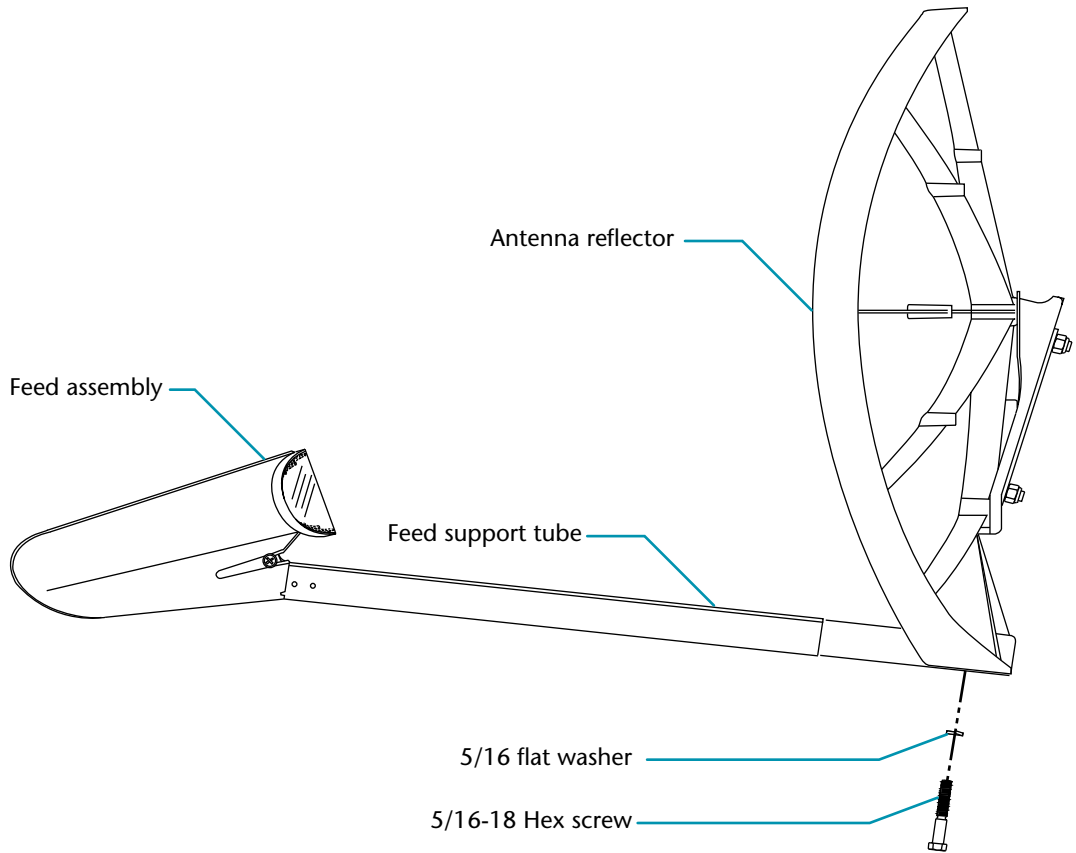

Figure 4-50. Installing feed assembly and feed support tube onto antenna reflector
1. Install the feed leg into the feed support socket on the antenna reflector (see figure 4-50).
2. Secure the feed leg with a 5/16 flat washer and 5/16-18 hex screw as shown in figure 4-50). Use a torque wrench to tighten the hex screw to 8 to 10 ft-lbs.